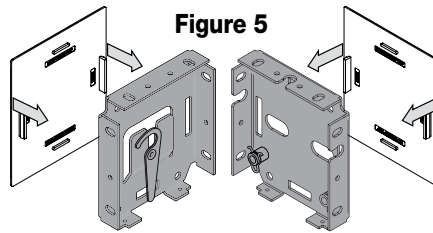

Figure 5
1. Snap end covers into place (Fig. 5).